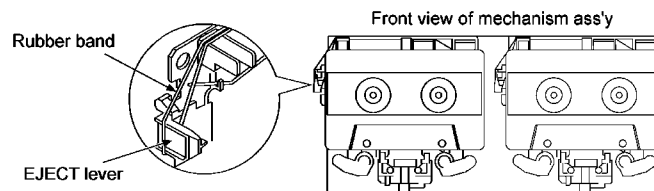

Fig. 14-2.
1. Push up the EJECT lever with rubber band. (Refer to Fig. 14-2.)